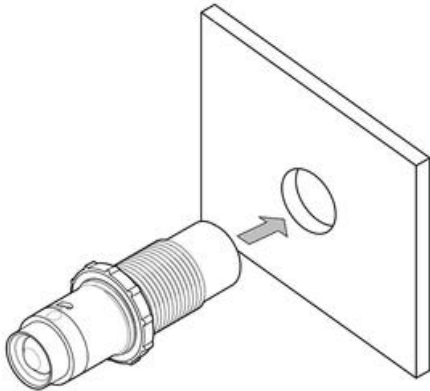

Fig. 7
3. Thread one of the mounting nuts onto the Device sleeve. Insert the sleeve into the designated hole (Fig. 7).